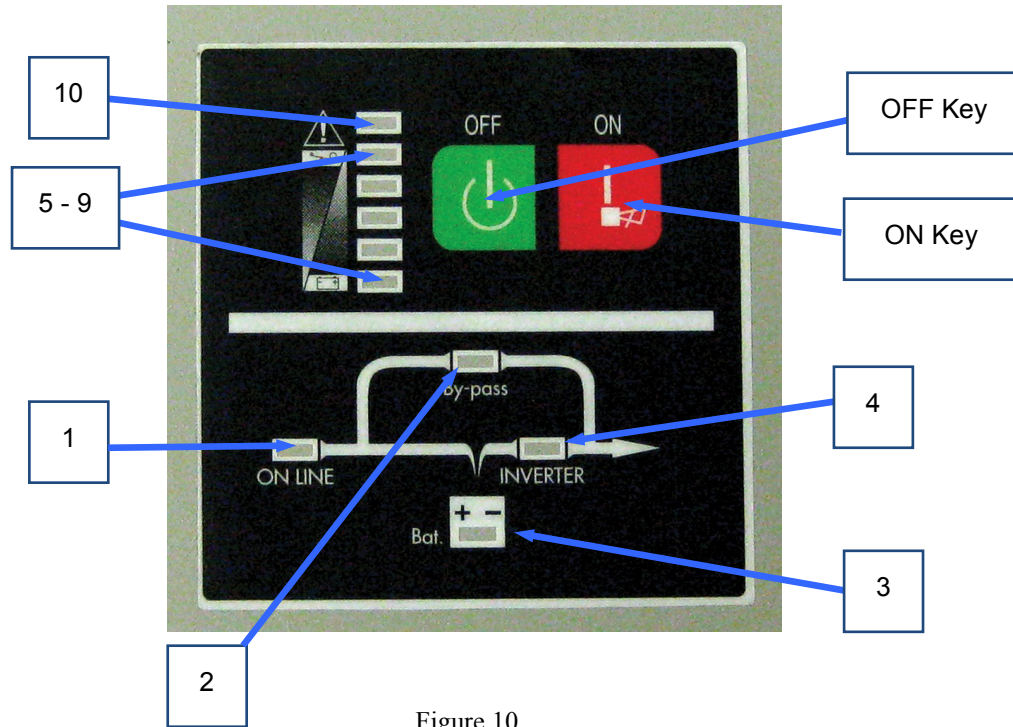

Figure 10
Refer to Figure 10 for descriptions of the Front Panel display's buttons and indicators.
- 8.1.3.2. The Processor perform a series of checks (These checks will be indicated by the display panels (see Figure 10) cycling through their LED's).